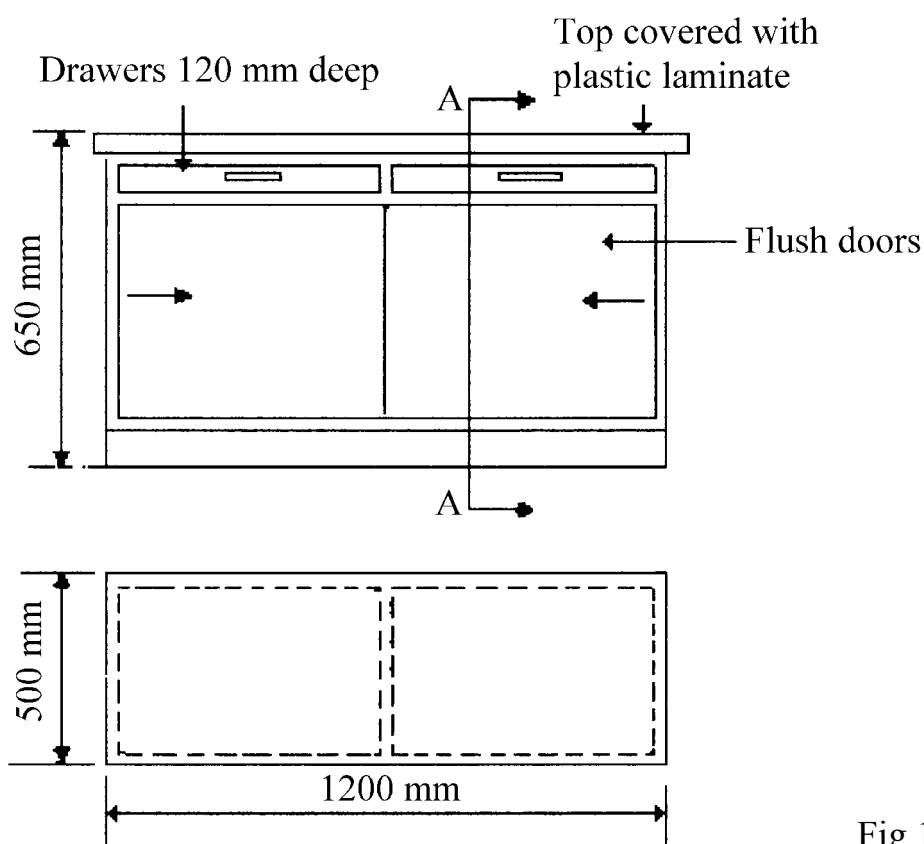

Fig.1
3. Details of a free-standing domestic fitment required for the catering department of a college are shown in figure 1.